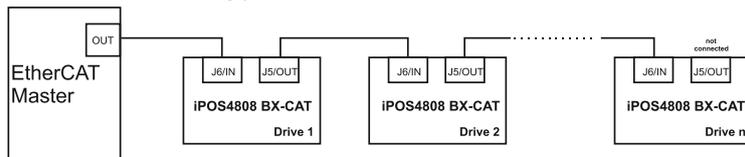

Figure 3.27. EtherCAT network linear topology
- Linear, when the J5 / OUT port of the last drive in the chain remains not connected. Master is connected to J6 / IN port of the first drive; J5 / OUT of the first drive is connected to J6 / IN of the following drive; J5 / OUT of the last drive remains unconnected. See **Figure 3.27** for a visual representation of the linear topology.